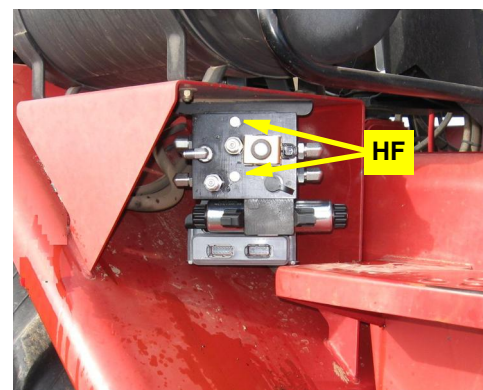

Figure 3b: Installed hydraulic block
- Mount the hydraulic steering block **HA** onto the bracket **HD** with hardware **HF** (Figure 3b).
- Figure 3b shows a gray control box that is used with eDriveX/XC controllers only. For detailed install instructions refer to the eDriveX/XC ECU install guide